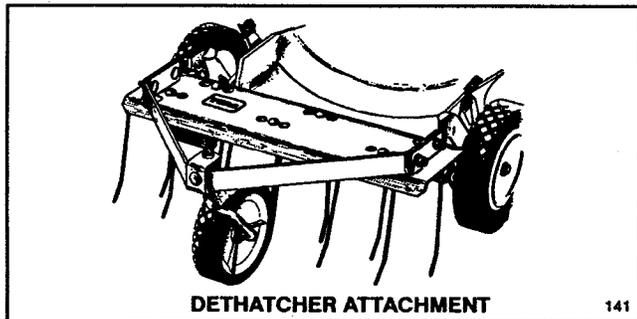

Figure 33
1. **Dethatcher Kit, Model No. 59131**—As spring tines on the Toro Dethatcher (Fig. 33) scratch and vibrate through the grass, thatch is loosened and cut by the mower.